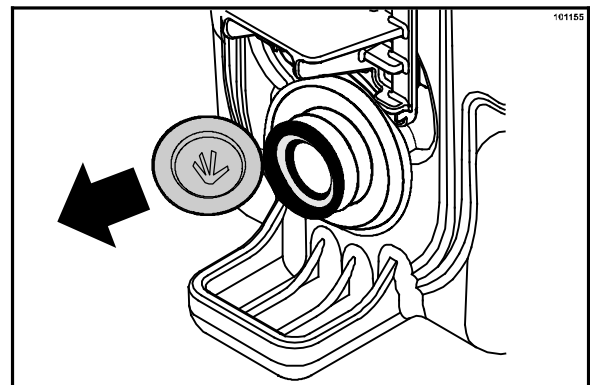

Figure 31
- Open the cap on the product bag and tear it off. (See Figure 31.)